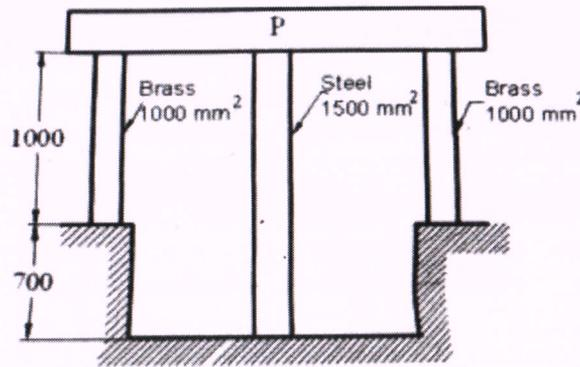

Fig. 3
- 2 a) Two brass rods and one steel rod together support a load as shown in Fig.3 . If the (10) stresses in brass and steel are not to exceed 60 N/mm^2 and 120 N/mm^2 respectively, find the safe load that can be supported. Take E for steel = $2 \times 10^5 \text{ N/mm}^2$ and for brass = $1 \times 10^5 \text{ N/mm}^2$. The cross-sectional area of steel rod is 1500 mm^2 and of each brass rod is 1000 mm^2 .